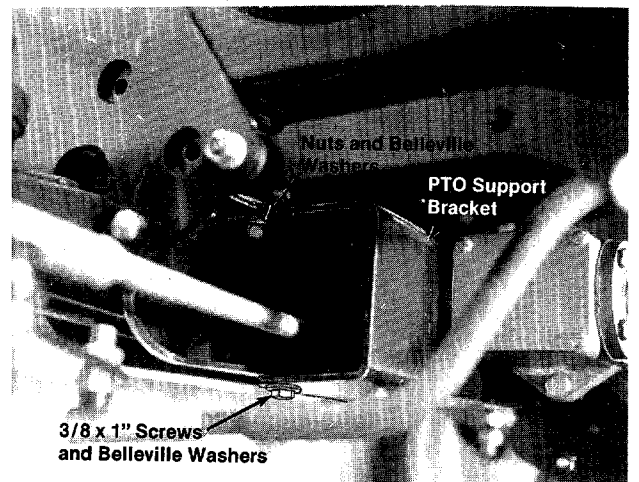

FIGURE 11.
2. Line up the holes on the bottom of the PTO support bracket with the holes in the tractor frame and attach with two 3/8 x 1" screws and belleville washers. See figure 11.